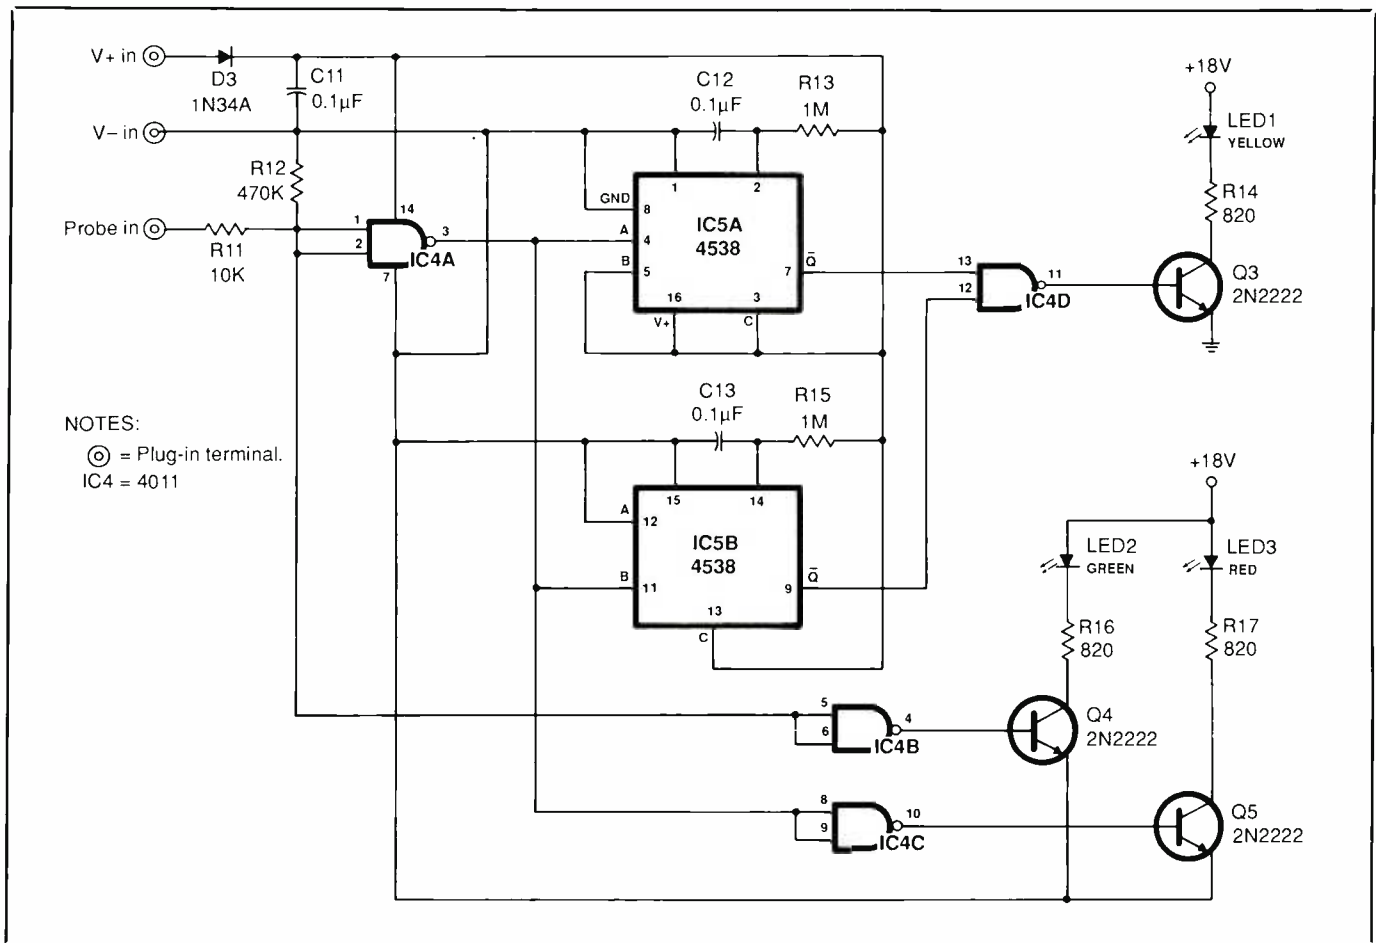

Fig. 2. Schematic diagram of logic probe with level and pulse detectors.
• **Logic Probe.** The circuitry for the logic probe is shown in Fig. 2. A logic probe is a convenient way to test and monitor digital circuits, especially